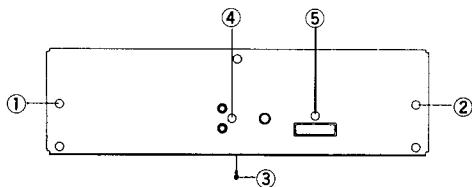

Fig. 2
1. Remove screws ① to ⑤ in Fig. 2, and then remove the rear panel
③ PCB-⑫ (Main PCB) Removal